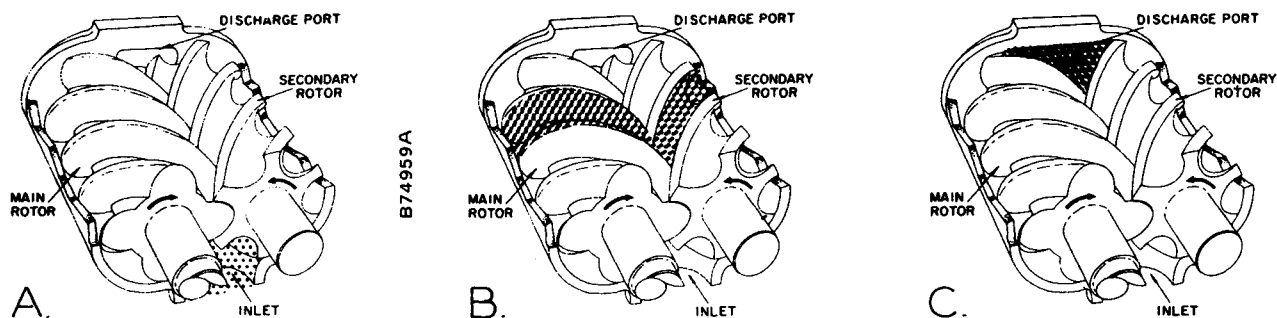

FIGURE 1-1. - COMPRESSION CYCLE
COMPRESSION PRINCIPLE (Figure 1-1) - Compression is accomplished by the main and secondary rotors synchronously meshing in a one-piece cylinder. The main rotor has four (4) helical lobes 90° apart. The secondary rotor has six (6) matching helical grooves 60° apart to allow meshing with main rotor lobes.
The air inlet port is located on top of the compressor cylinder near the drive shaft end. The discharge port is near the bottom at the opposite end of the compressor cylinder. *Figure 1-1 is an inverted view to show inlet and discharge ports.* The compression cycle begins as rotors unmesh at the inlet port and air is drawn into the cavity between the main rotor lobes and the secondary rotor grooves (A). When the rotors pass the inlet port cutoff, air is trapped in the interlobe cavity and flows axially with the meshing rotors (B). As meshing continues, more of the main rotor lobe enters the secondary rotor groove, normal volume is reduced and pressure increases. Oil is injected into the cylinder by proprietary means to remove the heat of compression and seal internal clearances. Volume reduction and pressure increase continues until the air/oil mixture trapped in the interlobe cavity by the rotors passes the discharge port and is released to the oil reservoir (C). Each rotor cavity follows the same "fill-compress-discharge" cycle in rapid succession to produce a discharge air flow that is continuous, smooth and shock-free.